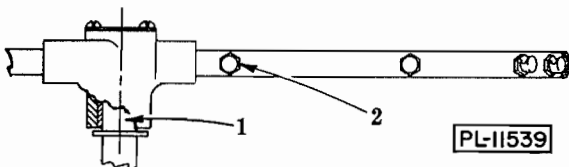

Fig. 9
D.2.2.1 To remove the lower wash arm, first lift off the rinse arm, then using a dowel (or end of punch) unscrew the rinse arm bearing pin (1, Fig. 9). Lift off lower wash arm. Loosen thumb screw to remove wash arm nozzles.
D.3.1.2 The hole in the rinse nozzle (2, Fig. 9) on the lower rinse arm may be cleaned with a wire or straightened-out paper clip. Push the scale or obstruction into the rinse